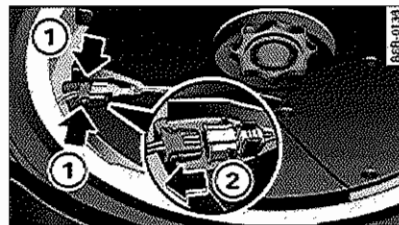

Fig. 225 Spare wheel well: Bass box
- Squeeze the locking tabs ⇒ fig. 225 ① of the connector.
- Disconnect the connector ② and place the lead to one side.